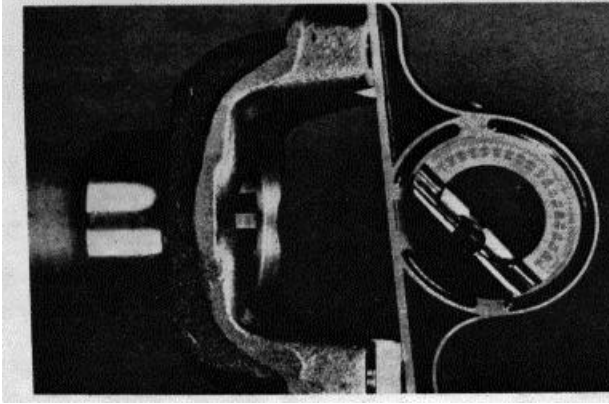

FIGURE 32
6. Check and record the angle on the engine and main transmission. This reading can be taken at the rear of the main transmission on the output yoke, or flange. Record this reading on a sketch similar to Fig. 32. (Example on Figure 32-1° down).